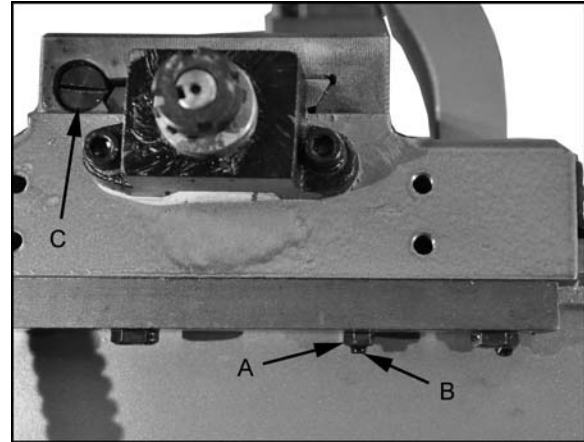

Figure 20
1. Loosen four hex nuts (A, Fig. 20) found on the bottom rear of the cross slide.
2. Turn each of the four set screws (B, Fig.20) equally with a hex wrench until a slight resistance is felt. Do not over tighten.
1. Loosen the rear gib screw (C, Fig. 20) approximately one turn.